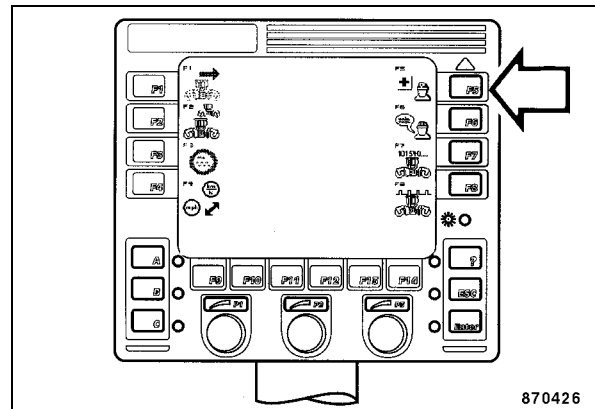

Fig. 200
- Press key "F5" (diagnostics) (Fig. 200).